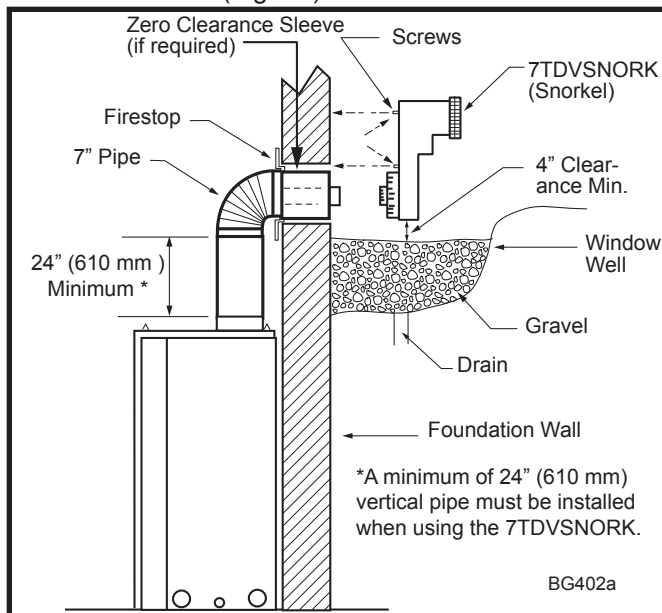

Fig. 39 Below grade installation.
2. Remove soil to a depth of approximately 16" (406 mm) below base of snorkel. Install window well (not supplied). Refill hole with 12" (305 mm) of coarse gravel leaving a clearance of approximately 4" (102 mm) below snorkel. (Fig. 39)
7. Level the soil to maintain a 4" (102 mm) clearance below snorkel. (Fig. 39)